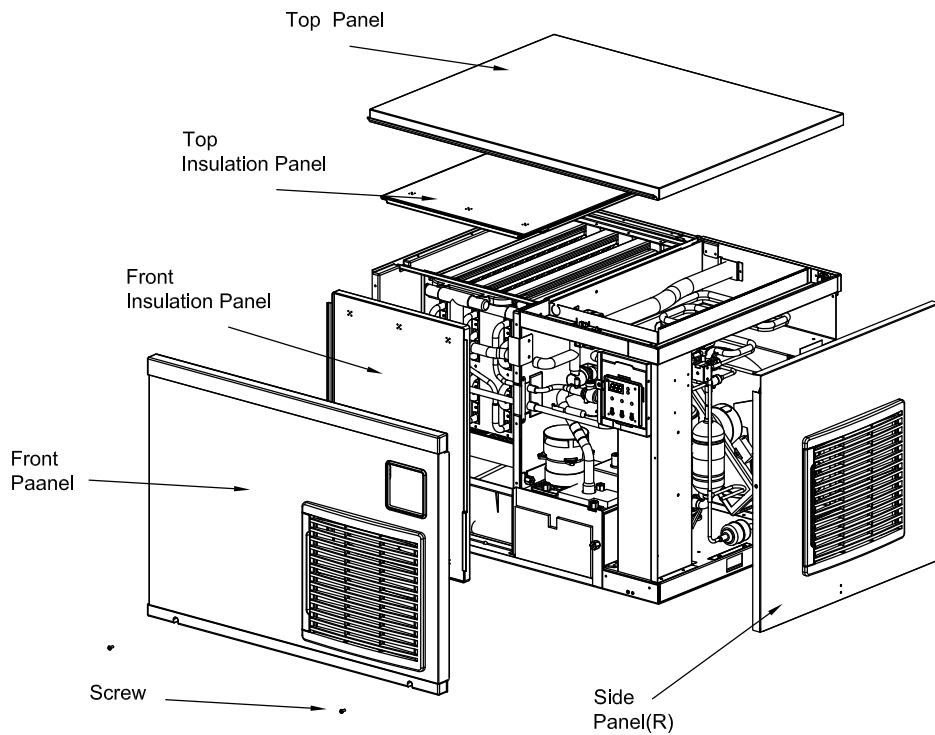

Fig 1
To avoid any damage during installation, remove all panels beforehand. Remove them in the following order by referring to Fig 1.
- Unscrew (1) and (2). Then, remove the front cover (A) by lifting as shown in Fig 1.
[Fig 1]